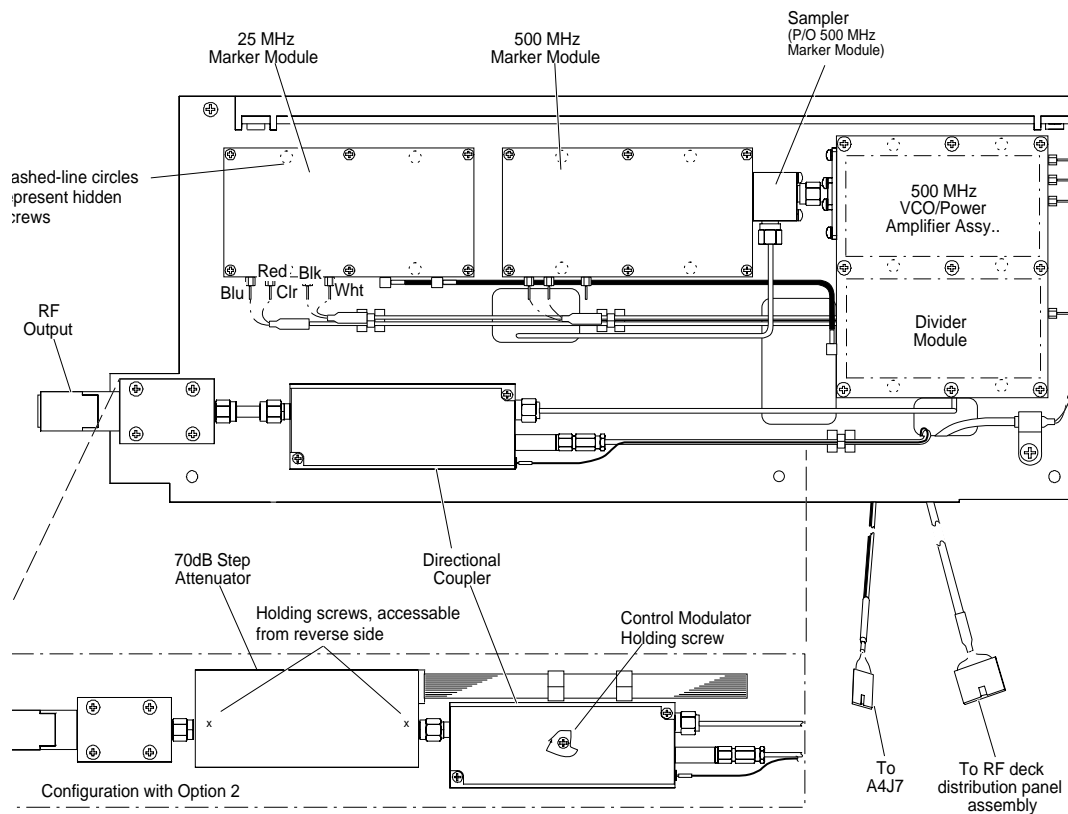

Figure 7-12. Models 54117A and 54119A RF Deck Parts Location (External Side Detail)
This paragraph provides instructions for removing and replacing the microwave components on the 54117A and 54119A RF decks. Procedures are organized by component. Refer to Figures 7-12 and 7-13 for component locations. In all cases, the replacement procedure is the reverse of the removal procedure.
- Step 3.** Remove two screws from the attenuator package ("X" in Figure 7-12); disconnect the remaining connector and lift the attenuator straight away.